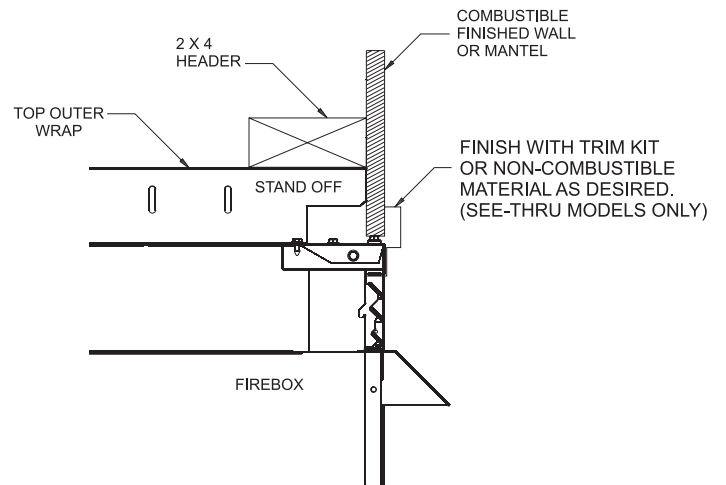

Figure 2a - Louvered Models
**Top Framing and Finishing:** Combustible framing may rest on top of standoffs. Combustible finishing materials may extend to the top standoff screws on the front edge of the top outer wrap. See Figures 2a and 2b.